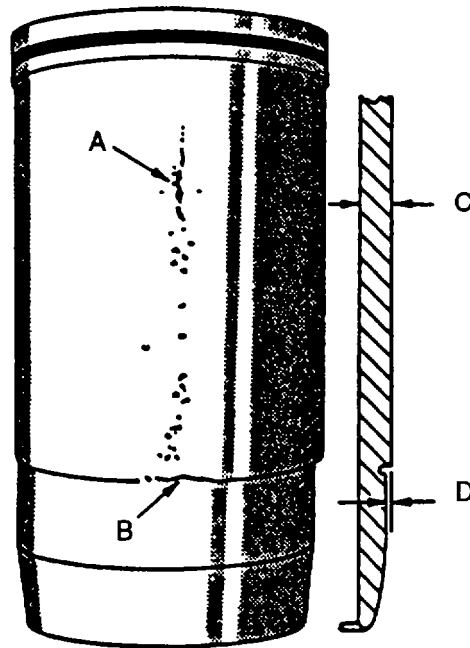

FIGURE 3-150. Inspecting Cylinder Liner Pitting
- r. Inspect exterior length of liner for pitting (A, FIGURE 3-150). Check packing step for erosion (B). If pitting or erosion is observed, measure depth of pits and erosion with a fine wire or needle. Replace liner if (C) depth of any pit is one-half or more of liner thickness, or (D) depth of erosion is one-half or more of the packing step. If no defects are found, proceed to next step.